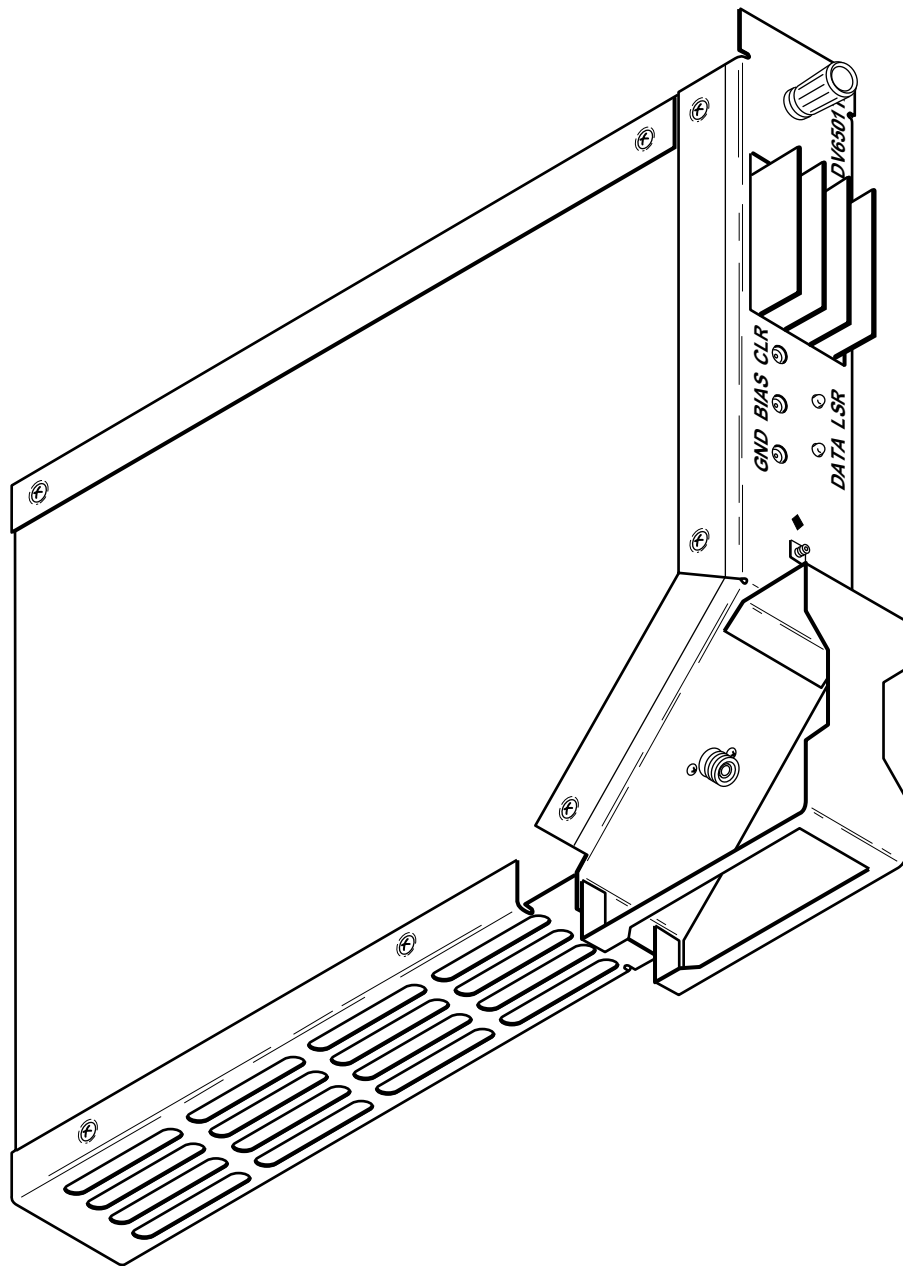

Figure 511-1. DV6000-System Optical Transmitter (DV6301TXD or DV6501TXD)
3. Use the digital voltmeter to measure the voltage between the transmitter's BIAS and GND test points. See Figure 511-1.